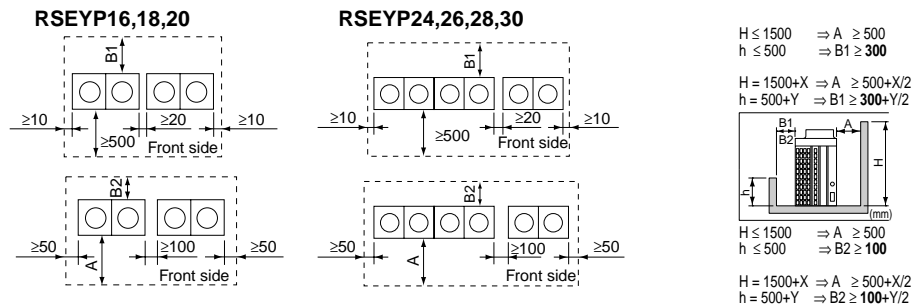

Fig. 1
2. The space around the unit is adequate for servicing and the minimum space for air inlet and air outlet is available. (Refer to figure 1 and choose one of both possibilities.)